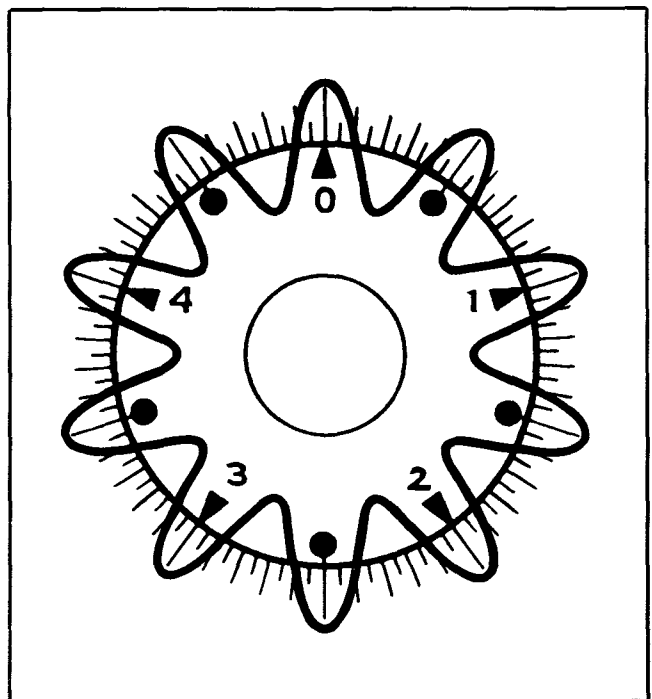

Figure 6-3. 9.83-kc Adjustment Pattern
c. Throw SCALE to TIMES TEN, and adjust top slug of T112 to obtain 10:1 ratio between audio-oscillator and timing-oscillator frequencies. (See figure 6-3 for indicator pattern.) This adjustment is also critical, and again a stationary pattern cannot be achieved. The rotation must be stopped only long enough to count ten peaks.